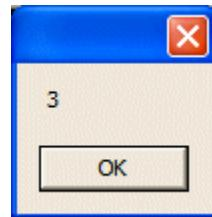

Figure 8-14. Displaying the fifth argument.
- 6) Click the **OK** button to dismiss this *MsgBox()*. The script now displays the fifth argument as illustrated in Figure 8-14.